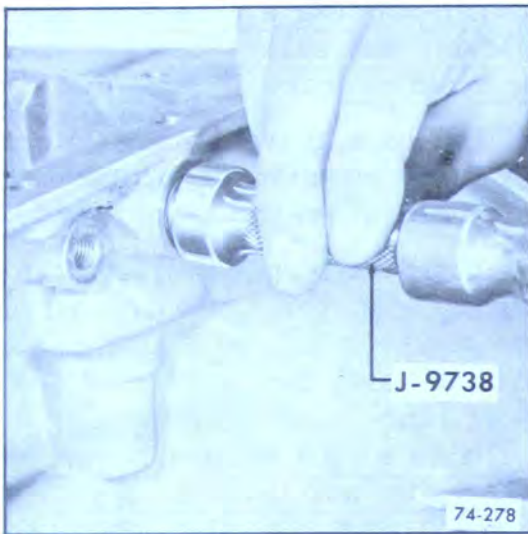

Figure 74-277
2. If removed install manual shaft seal using J-9738. See Figure 74-277. Make certain lip of seal points toward center of case.